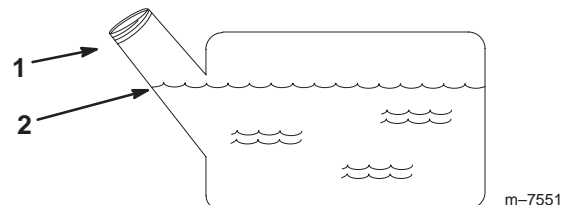

Figure 4
4. Add unleaded gasoline to the fuel tank, until the level is 1/4-1/2 inch below the bottom of the filler neck (Fig. 4).
Important This space in the tank allows gasoline to expand. Do not fill the fuel tank completely full (Fig. 4).